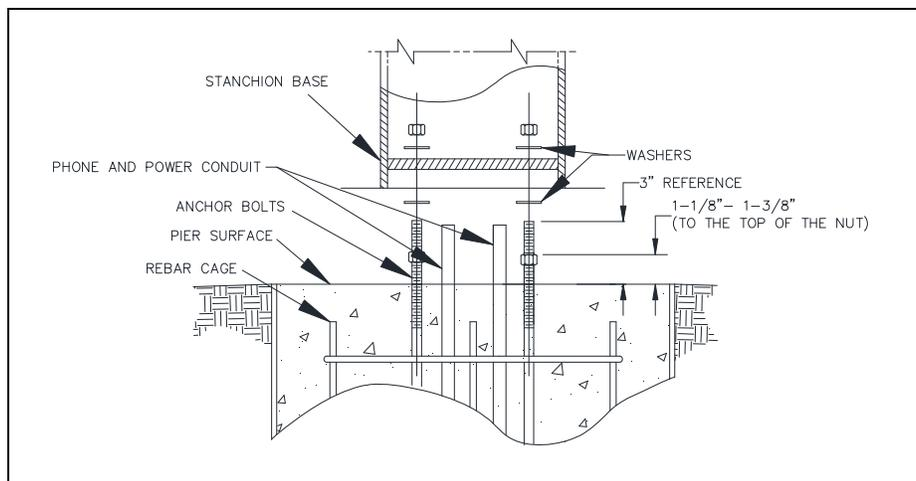

Figure 6. Exploded View
1. Thread the 3/4-inch hex nuts onto the anchor bolts until the tops of the nuts are 1-1/8 to 1-3/8 inches above the top of the pier. Verify that they are level. Place one washer over each nut. See Figure 6.